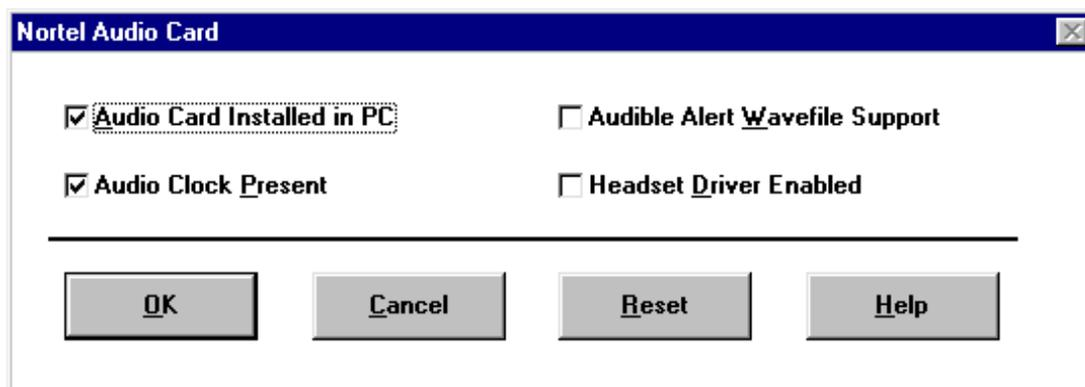

FIGURE 64. Example of the Audio Device dialog box for TDM positions
1. In the configuration window, select Audio Card. (See Figure 64.)